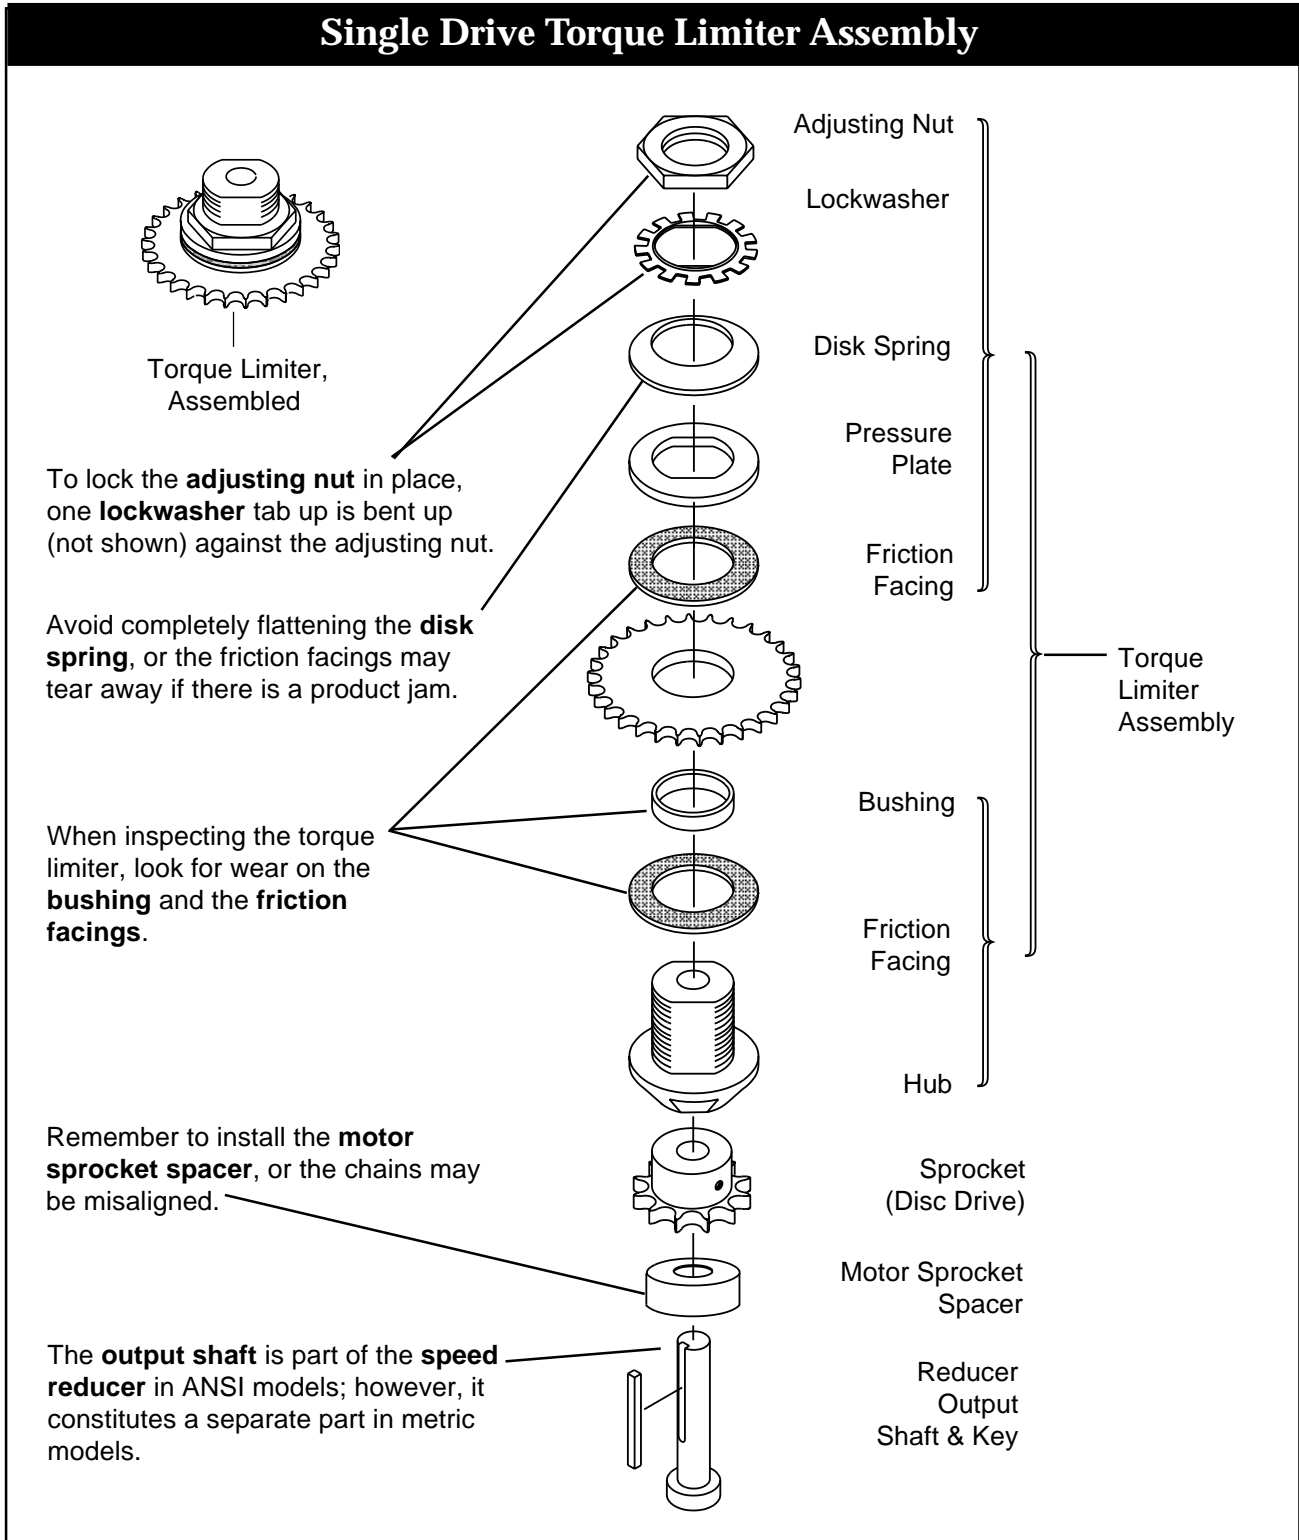

Figure 5-1. Torque Limiter Assemblies
Step 3—Remove Torque Limiter. Remove and disassemble torque limiter. (See Figure 5-1) Inspect and replace any broken or worn parts. Observe order of components.
Step 5—Install Torque Limiter. Install the torque limiter. Tighten the adjusting nut (see Figure 5-1) down until the bowl turns when power is applied with minimum slippage. Do not completely flatten the disk spring. Also do not lock the adjusting nut yet. You will lock the adjusting nut after turning on the motor. Some slippage must occur to prevent damage, however, there should be no slippage if the bowl is at maximum rotation.
Step 4—Reducer Installation. Remove the torque limiter and reducer mounting brackets from the old reducer and install them on the new reducer. Slide the torque limiter assembly down onto the reducer output shaft until it bottoms out against the roll pin (see Figure 5-1). Tighten setscrew.
Step 5—Assemble Output Shaft. Unlike the ANSI speed reducer, which includes an integral output shaft, the output shaft on the metric speed reducer comes as a separate kit. If replacement is required, clean both contact surfaces before assembly and apply any appropriate anti-seize compound to avoid oxidation (rust) and possible seizing of parts. Slide the torque limiter assembly down onto the reducer output shaft until it bottoms out against the roll pin (see Figure 5-1). Tighten setscrew. The speed reducer used in the metric FT-30-RD feeder is lubricated for life with synthetic lubricant and requires no filling before use.